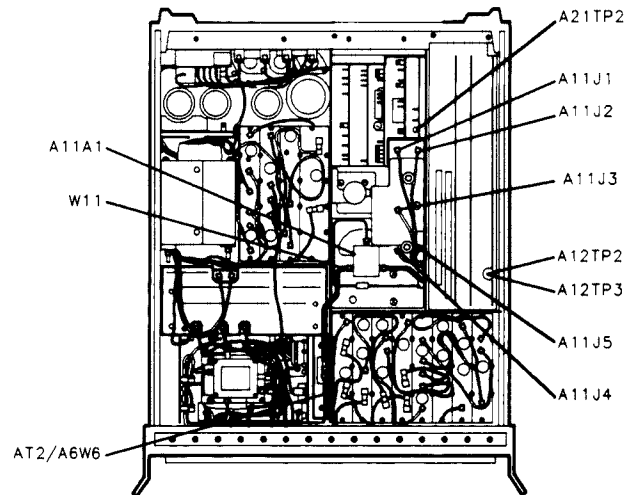

Figure 3-70. Location of Assemblies, Cables, and Test Points
2. Disconnect semi-rigid coax cable W11 from A11A1 CIA Assembly's YTO OUT connector. Disconnect the opposite end of W11 from AT2 (for RF Sections 2526A and below, disconnect from cable A6W6). See Figure 3-70 for the location of A11A1, W11, A6W6, and AT2.
3. On the A11 YTO Loop Assembly, disconnect the cable 8 (gray) from A11J1 PHASE DET OUT, the cable 93 (white/orange) from A11J2 M/N IN, and the cable 5 (green) from A11J3 20/30 IN. Disconnect cable 0 (black) from A11J4 IF IN and A11J5 IF OUT. See Figure 3-70.
4. Connect a jumper between A12TP2 and A12TP3 (LOCK INDICATOR DISABLE) on the A12 Front Panel Interface Assembly in the RF Section. Connect a jumper between A21TP2 TUNE VOLTAGE and the RF Section chassis ground. See Figure 3-70.